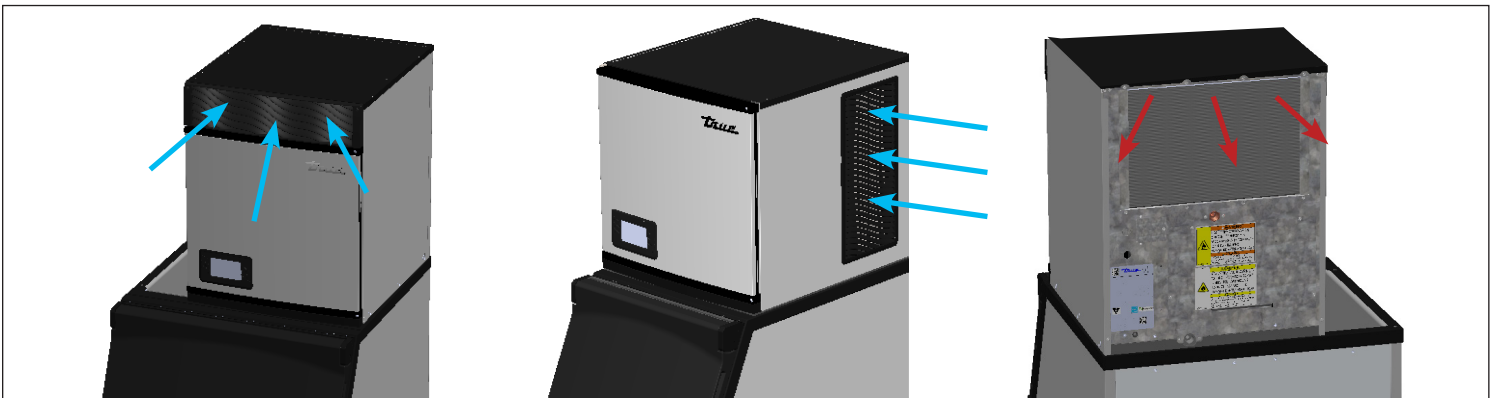

Fig. 2. Air flows into the front/sides and out the rear.
- This ice machine will pull air in from the front/sides and exhaust air out the back. See fig. 2. This ice machine will also reverse fan motor periodically to remove dirt from the condenser coil.